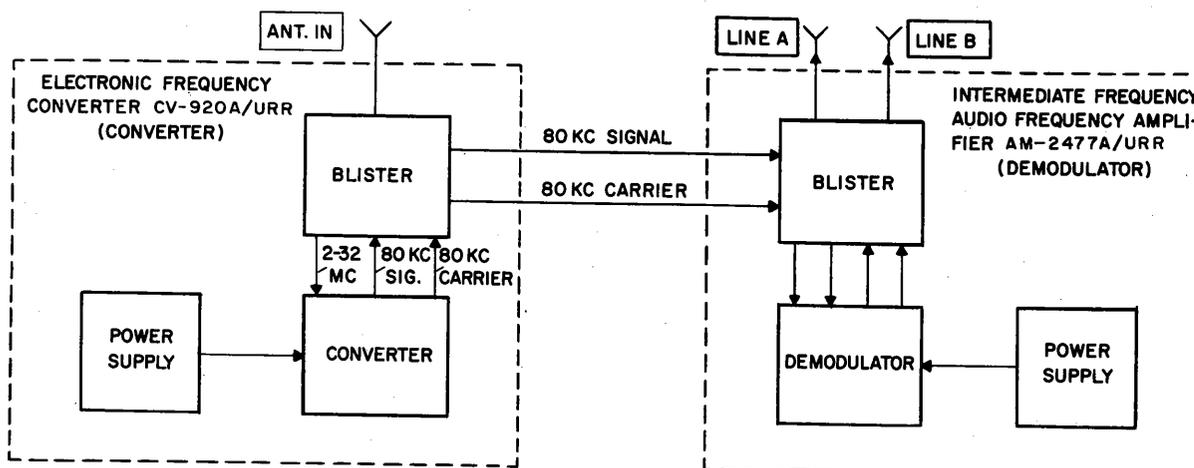

Figure 4-1. Radio Receiving Sets AN/WRR-2A and AN/FRR-59A, Basic Block Diagram
- (1) A1 - On/off keyed continuous wave (CW)
- (2) A2 - On/off keyed tone-modulated continuous wave
- (3) A3 - Amplitude modulation (AM)
- (4) A9 - Single sideband
- (5) F1 - Frequency-shift teletype
- (6) F4 - Facsimile.
b. SYSTEM BLOCK DIAGRAM.—Figure 4-1 is a basic block diagram of the receiver. It shows the functional relationship between the two drawers which comprise the receiver. These are:
- (1) Electronic Frequency Converter CV-920A/URR (converter)
- (2) Intermediate Frequency-Audio Frequency Amplifier AM-2477A/URR (demodulator).